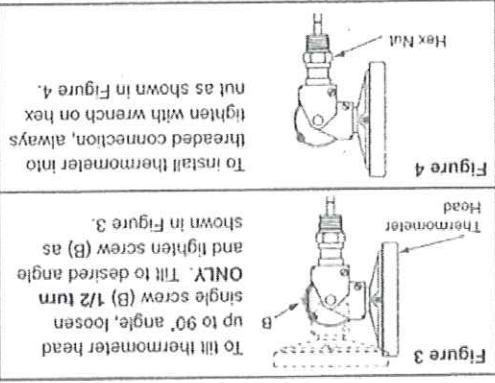

Figure 3
To tilt thermometer head up to 90° angle, loosen single screw (B) 1/2 turn ONLY. Tilt to desired angle and tighten screw (B) as shown in Figure 3.